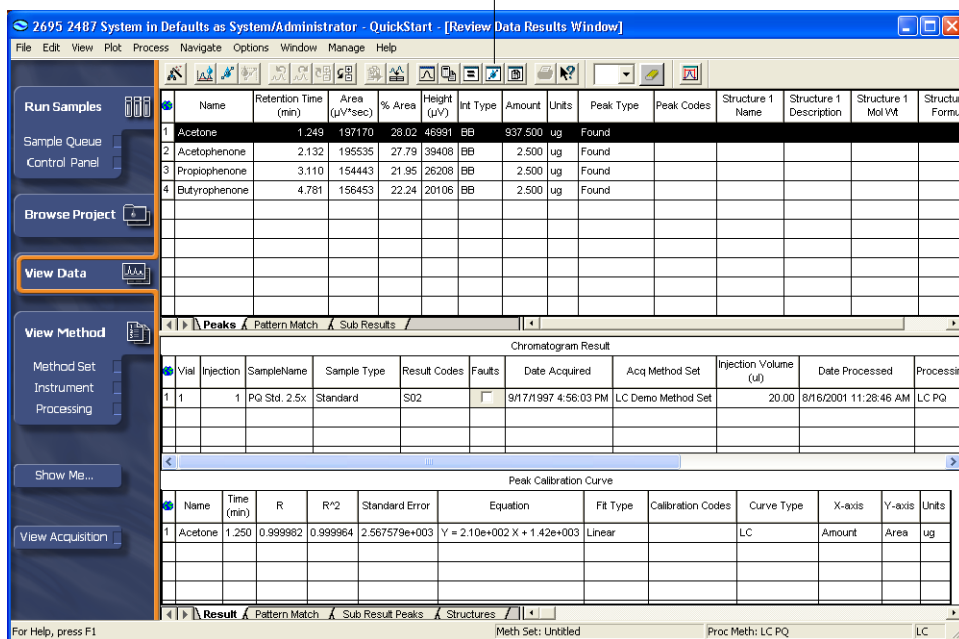

Figure 7-3 Results Window
5. Click  (Results). The Results window appears (Figure 7-3). View any information that interests you, such as peak results, chromatogram results, or calibration curve results.